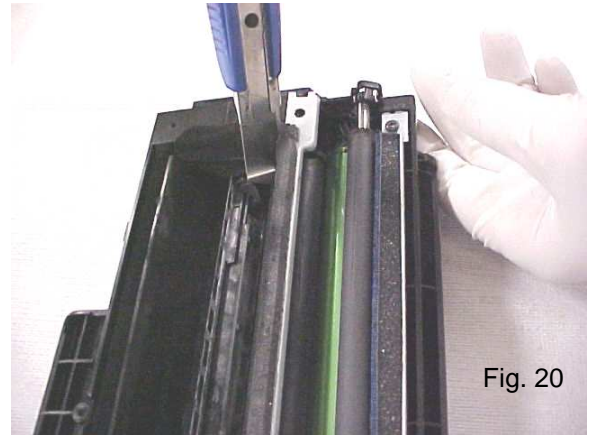

Fig. 20
20. Use a utility knife to cut through the vertically placed sealing foam on both corners of the doctor blade (Fig. 20). Remove the doctor blade and clean or replace.